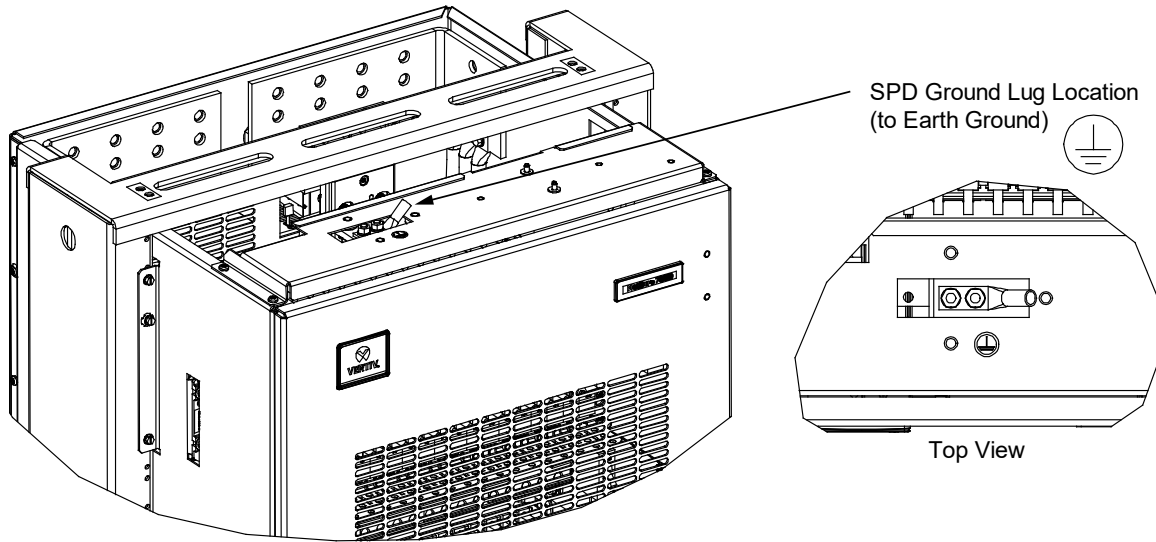

Figure 6
A landing point is provided on the top of the distribution cabinet for an SPD (Surge Protection Device) (if installed) earth ground lead. If installed, the SPD (Surge Protection Device) Assemblies are located on the underneath side of the distribution cabinet top cover panel. A busbar accessed from the top of the distribution cabinet is provided for the SPD earth ground connection. The busbar has two (2) 1/4 20 x 1/2" long threaded studs on 5/8" centers. A 2-hole, 5/8" centers, 1/4" hardware, 2 AWG flex wire crimp lug is provided with the power system. An opening in the top cover permits the compression lug to be routed either to the left or to the right. Refer to Figure 6.